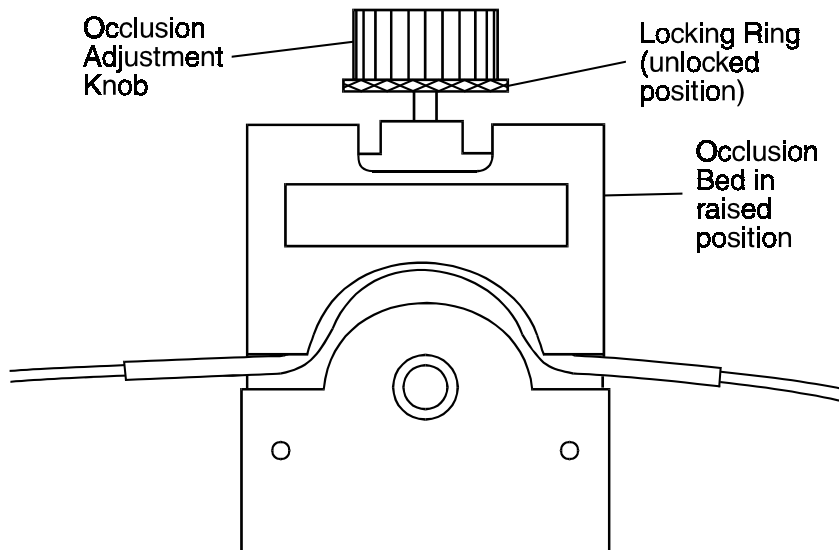

Figure 3. Occlusion Assembly in Raised Position
1. Rotate the Occlusion Adjustment Knob fully counterclockwise to lift the Occlusion Bed as shown in Figure 3.
3. Lift the Occlusion Bed as shown in Figure 3, then remove the Occlusion Bed by sliding out the front of the Body Assembly.